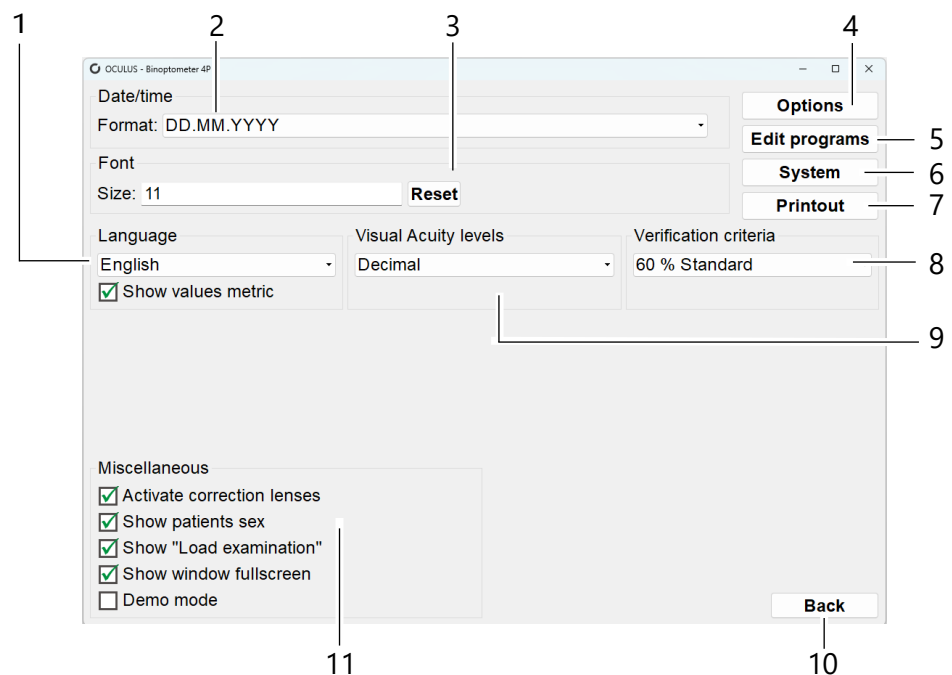

Fig. 25: "Settings" screen
"Language" group box → Fig. 25 (page 38), item 1:
"Date/time" group box → Fig. 25 (page 38), item 2:
“Font” group box → Fig. 25 (page 38), item 3:
“Visual acuity levels” group box → Fig. 25 (page 38), item 9:
“Verification criteria” group box → Fig. 25 (page 38), item 8:
“Miscellaneous” group box → Fig. 25 (page 38), item 11:
- ➔ Press the [Options] button → Fig. 25 (page 38), item 4.
- ➔ Press the [Edit programs] button → Fig. 25 (page 38), item 5.
- ➔ Press the [System] button → Fig. 25 (page 38), item 6.